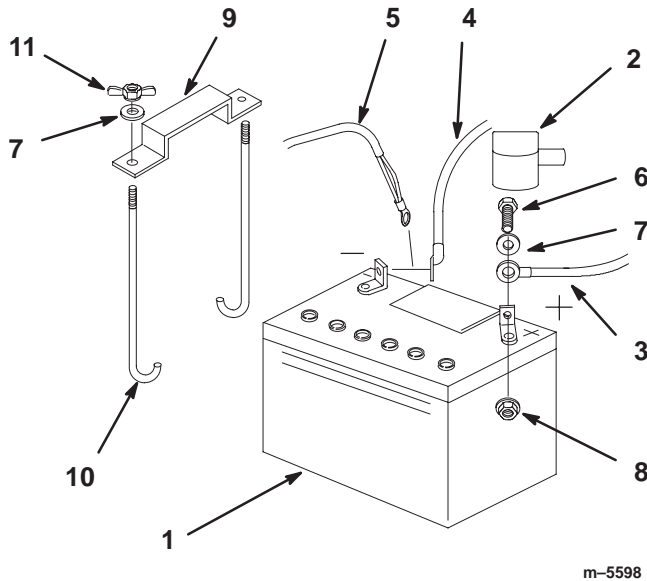

Figure 49
1. Position battery in tray with terminal posts toward the engine (Fig. 49).
4. Secure cables with 2 bolts (1/4 x 3/4 in.), 2 washers (1/4 in.), and 2 locknuts (1/4 in.) (Fig. 49).
6. Secure battery with J-bolts, hold down clamp and 2 washers (1/4 in.), and 2 wing nuts (1/4 in.) (Fig. 49).
3. First disconnect the negative battery cable and ground wire from the negative (-) battery terminal (Fig. 49).
4. Slide the red terminal boot off the positive (red) battery terminal. Then remove positive (red) battery cable (Fig. 49).
5. Remove both wing nuts (1/4 in.) securing the battery clamp (Fig. 49).